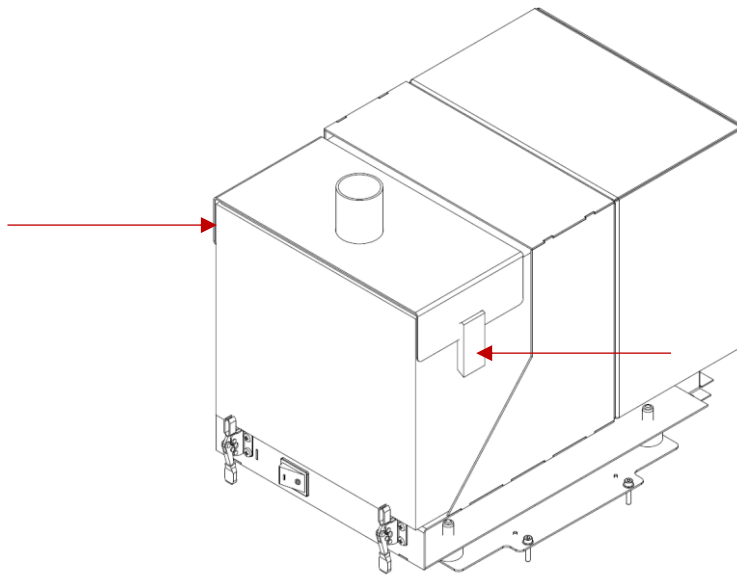

Fig. 108 Clamps securing the upper filter cover
5. Open the two clamps securing the upper filter cover (Fig. 108).